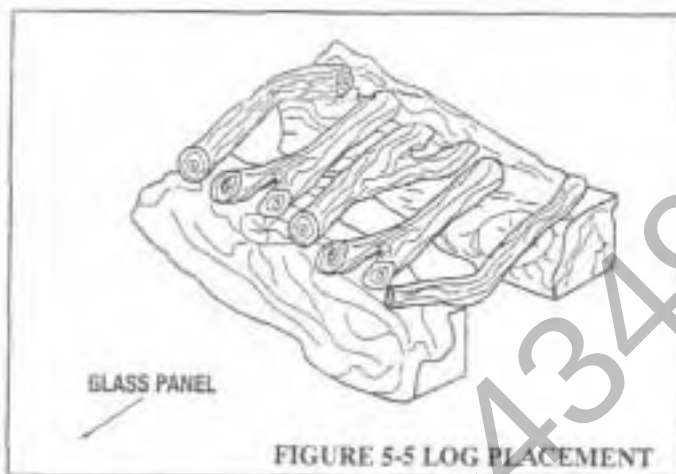

FIGURE 5-5 LOG PLACEMENT
The Marco CCT-41 includes a seven (7) piece log set. Alignment pins and slots are provided to ensure proper spacing and location. Refer to Figure 5-5.
1. Put the logs in place as shown in Figure 5-5.